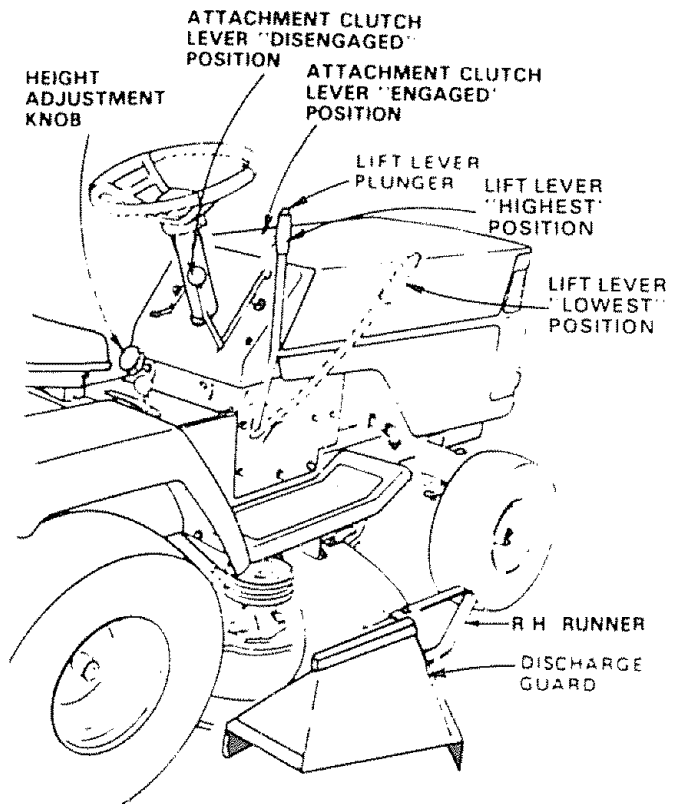

FIGURE 8
- Move the attachment lift lever to the high position and adjust height of cut to mid range. See Fig. 8.
- Move throttle lever to half throttle and slowly move attachment clutch lever to engaged position, Fig. 8.
- b. Use the runner on the R H. side as a guide; the blade cuts approximately an inch outside the runner (Fig. 8).